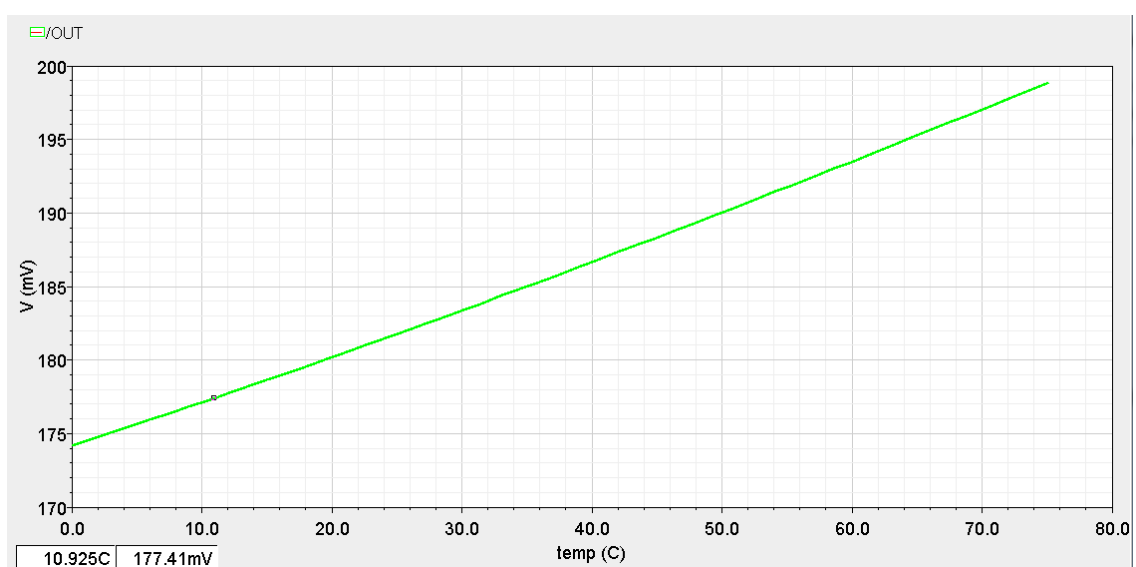

Figure 9: Change of output voltage with respect to Temperature
3. After you choose the output to be observed you are ready to make simulation. Click on "Simulation->Run". Figure 9 shows the change of output voltage of the inverter circuit with respect to temperature for input voltage equal to 2 V.